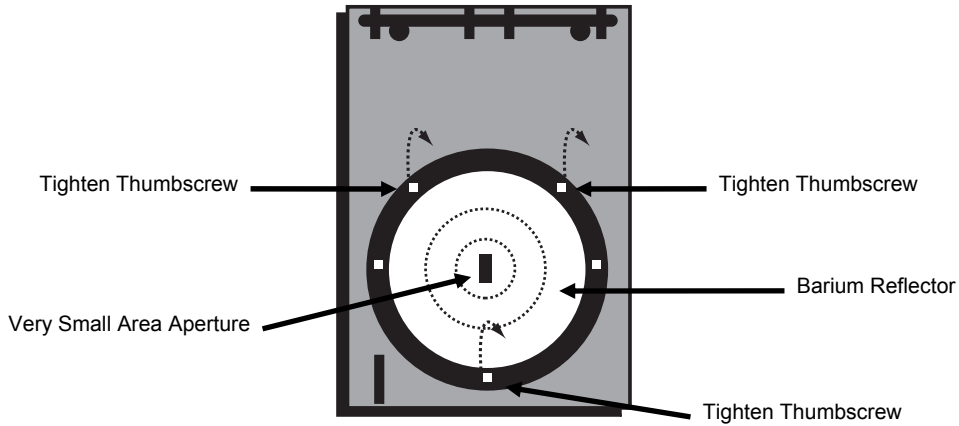

Figure 4-10. Changing the Sampling Aperture, Step 5.
- To secure the Very Small Area Aperture in place, turn the three captive thumbscrews *clockwise*. See Figure 4-10.